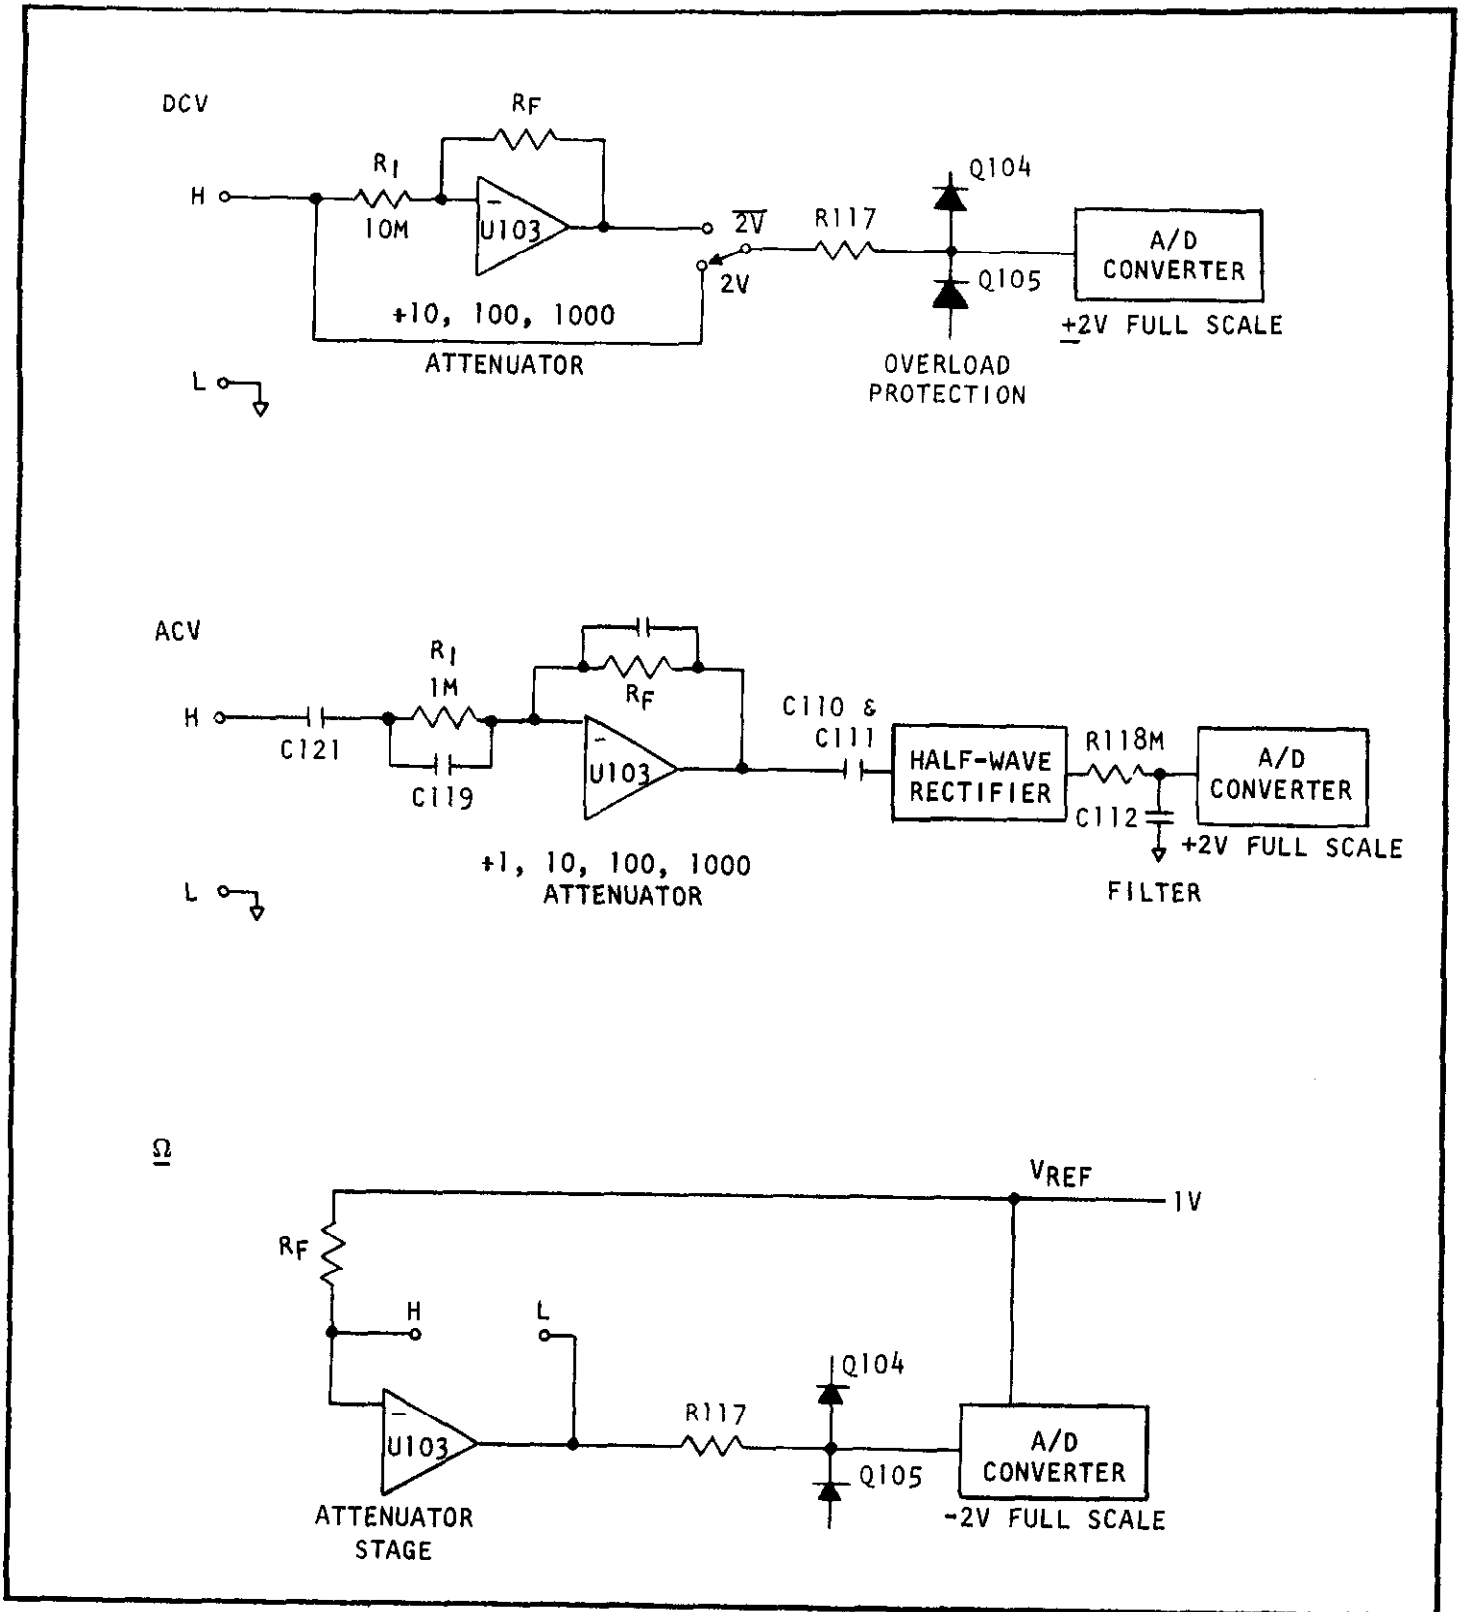

FIGURE 6-2. Attenuation and Ohms Conversion.
a. Signal Conditioning. Signal conditioning includes dc attenuation (except on the 2-volt range), ac attenuation, ac-to-dc conversion and ohms conversion as shown in Figure 6-2.